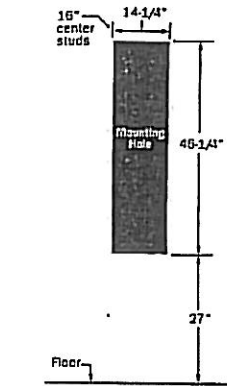

Figure 5. Mounting hole dimensions.
- The Hide-Away Ironing board is designed to be easily installed between two normal 16" center studs. First determine the desired height of the ironing board from the floor. The mounting hole dimensions in Figure 5 indicate the standard height of 36" above the floor. This can be obtained by cutting the base of your wall opening 27" above the floor. You may adjust higher or lower according to your preference.
- Mark the location of the mounting hole using a pencil (see Figure 5 for dimensions).